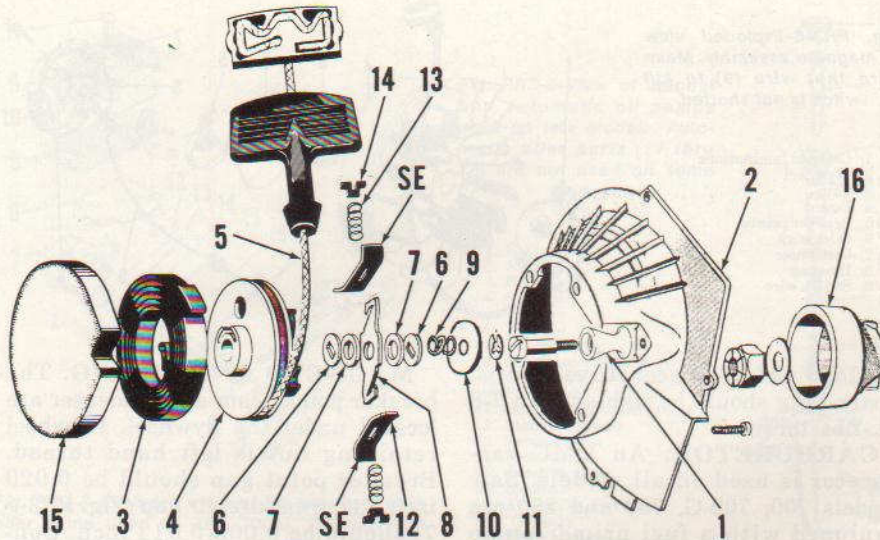

Fig. PR2-12—Exploded view of rewind starter used on later models.
**REWIND STARTER.** Two types of rewind starters have been used. Early models may be equipped with the rewind starter shown in Fig. PR2-11. Later models are equipped with the starter shown in Fig. PR2-12.